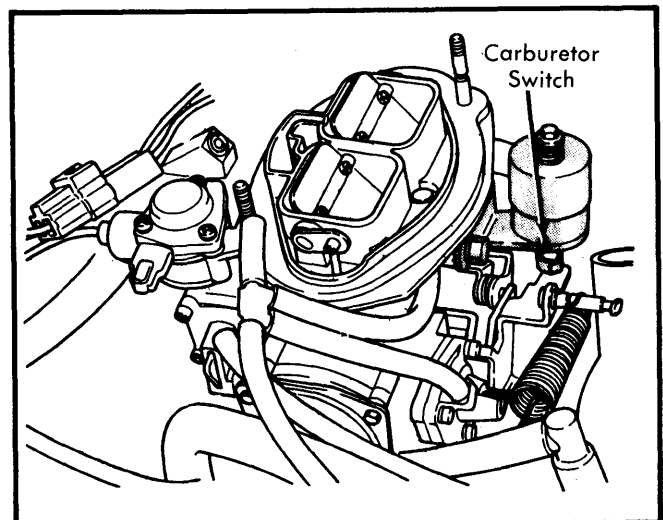

Fig. 5 Location of Carburetor Switch
- 6) If no spark was obtained in step 2), or if in step 5) voltage was obtained but engine would not start, hold carburetor switch open with a thin cardboard insulator. See Fig. 5. Measure voltage between carburetor switch and ground. Reading should be at least 5 volts. If so, proceed to step 10).